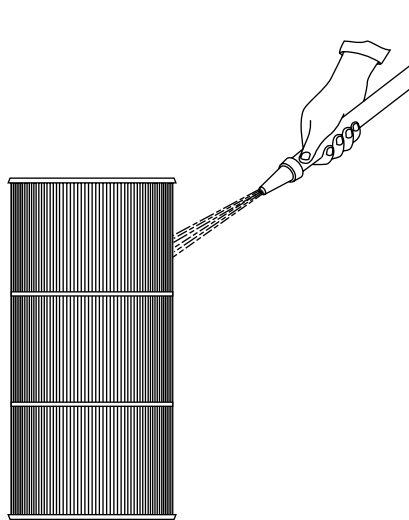

Figure 13
### WASHING FILTER ELEMENT (SEE FIGURES 13 AND 14)
1. Use a garden hose with straight flow nozzle to wash down filter element (See Figure 13).